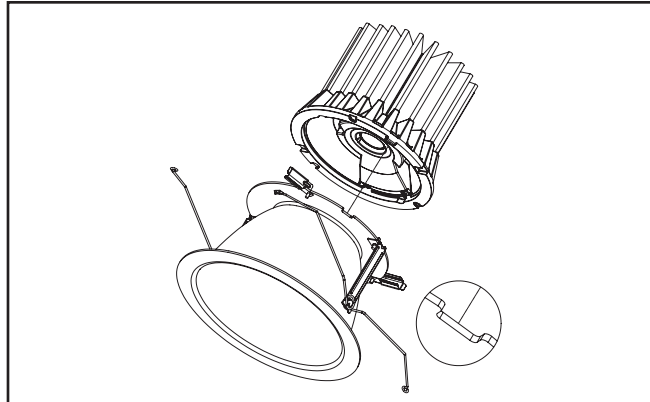

Figure 10.
3. Insert LED engine on to trim assembly. Align post on LED engine with slot on trim assembly. (Figure 10.)